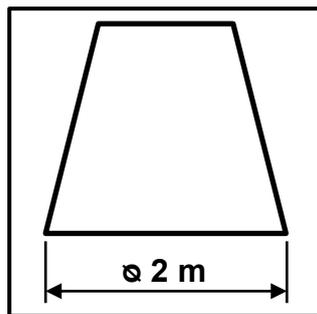

FIGURE 4.14
- (1)
- 4.14 What is the magnitude of the base circumference of the cone shown in FIGURE 4.14 below?